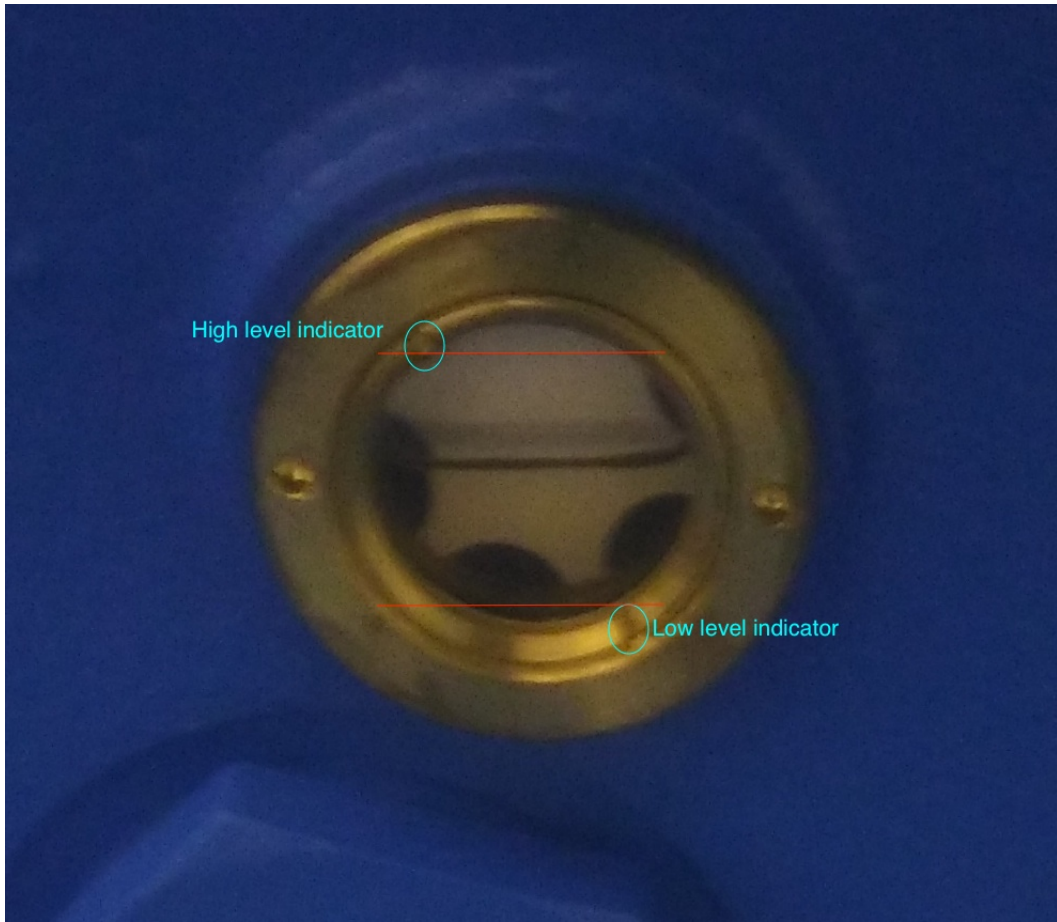

Figure 12: View of compressor oil level indicator.
The compressor is checked in the following way. The oil pressure is shown on the control screen of the compressor and should be at 48 bar. On the same side of the compressor below the main gauges there is a level gauge for the oil. This should be checked at least every second day. The level should be between the upper and lower level indicators (shown in fig. 12).
- Check the oil level (see fig. 12).